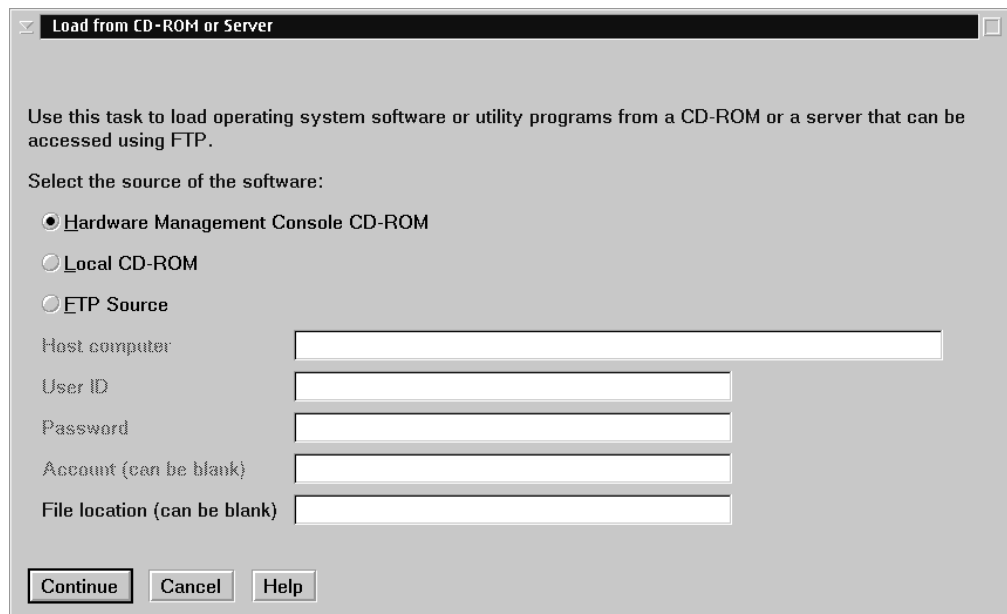

Figure 62. Load from CD-ROM or Server panel
5. Click the "Load from CD-ROM or Server" icon in the Task Area to display the "Load from CD-ROM or Server" panel (Figure 62).